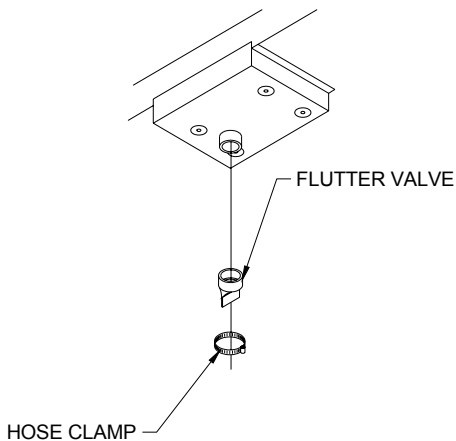

FIGURE 2-4: FLUTTER VALVE INSTALLATION
- a. Refer to **Figure 2-4**. Slide flutter valve onto holder.
- b. Refer to **Figure 2-4**. Place hose clamp over flutter valve and tighten to secure valve in place.